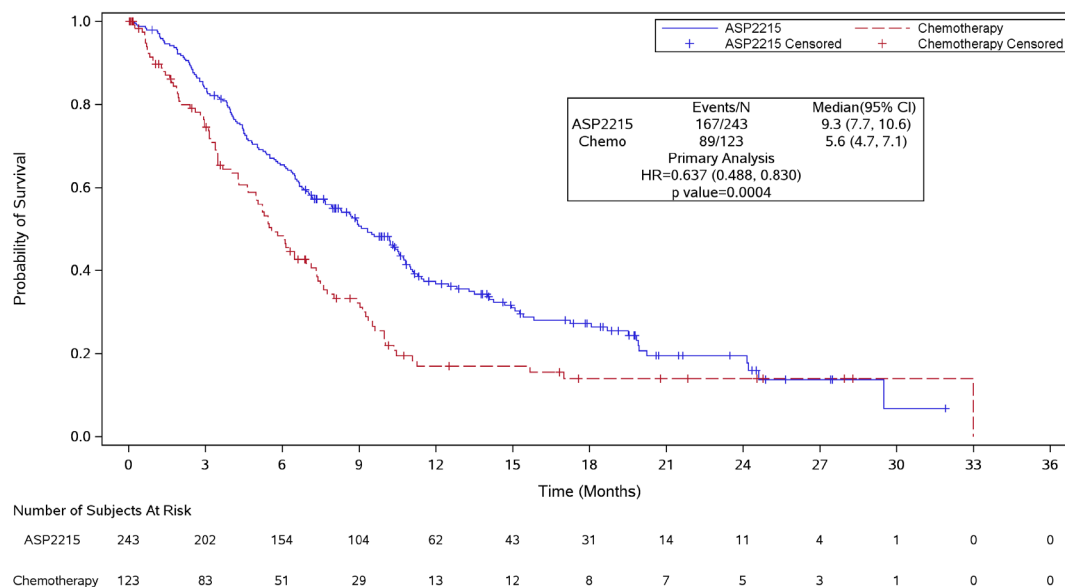

Figure 11 - Kaplan-Meier plot of overall survival.
- 17.14.1. At the final analysis, the median OS in the gilteritinib fumarate arm was longer (9.3 months) compared to that in the salvage chemotherapy arm (5.6 months) in the CDx+ population. The stratified hazard ratio (HR) by Cox regression was estimated to be 0.637 (95%CI 0.488, 0.830) relative to salvage chemotherapy, p-value (1-sided, stratified log rank) = 0.0004, corresponding to a relative risk reduction of death in favor of gilteritinib fumarate. The Kaplan-Meier plot is provided in Figure 11.